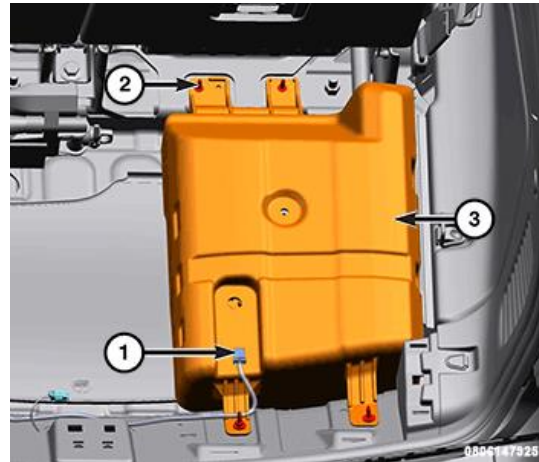

Figure 24 – Subwoofer Connector
- 41. Disconnect the subwoofer wire harness connector (1) (Figure 24).
- 42. Remove the subwoofer fasteners (2) (Figure 24).
- 43. Remove the subwoofer (3) (Figure 24).
93. Install the subwoofer (3) (Figure 24).
94. Install the subwoofer fasteners (2) (Figure 24).
95. Connect the subwoofer wire harness connector (1) (Figure 24).